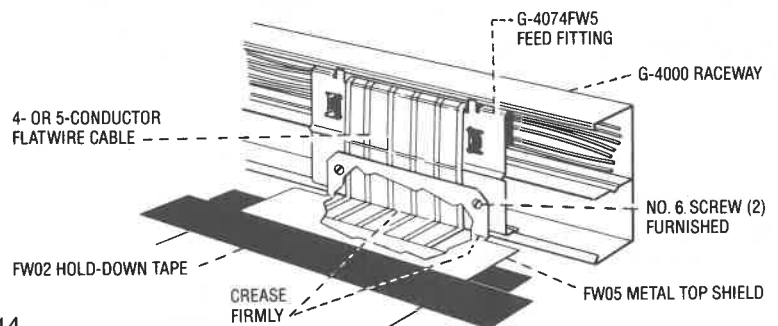

Fig. 14
B. Loop FLATWIRE cable over entry recess and outside of feed fitting. Center feed fitting over chalk line on floor and snap into G-4000 raceway as in Fig. 14. Crease cable firmly at floor line and cross-tape to floor close to raceway. Continue installing cable to end of entire run as in Step 6, page 8.
C. Prepare end of FW05 Metal Top Shield as in Fig. 9, using metal shears and punch or drill. Attach shield to threaded bushing on feed fitting with No. 6 screws (furnished) as in Fig. 14. Crease shield firmly at floor line and cross-tape to floor close to crease. Continue installing metal top shield to end of entire run as in Step 7, page 12.